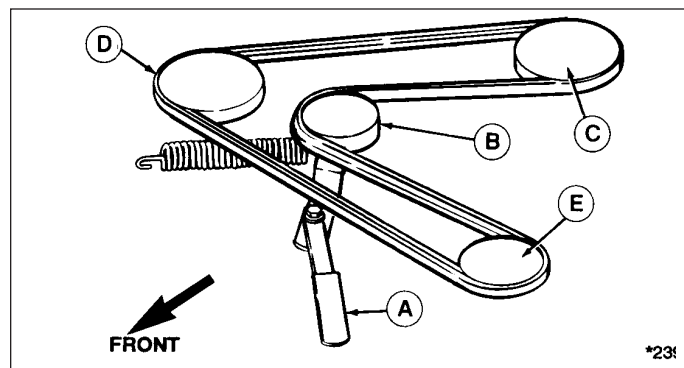

Figure 33. Belt Pattern - 34" Mower
4. Remove old belt from arbor pulleys and replace with new belt. Make sure V-side of belt runs in all arbor pulley grooves and flat side of belt runs against idler pulley. See Figure 33 for belt pattern.